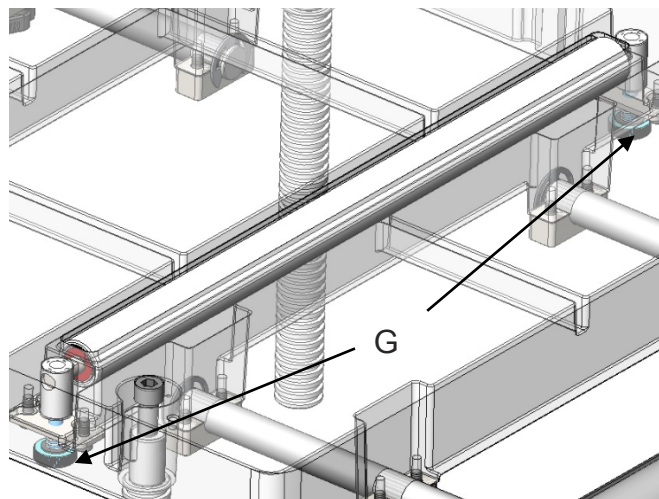

Figure 4: Table Roller
3. Turn the knobs (Fig. 4, G) to move the table roller up or down to the desired position.